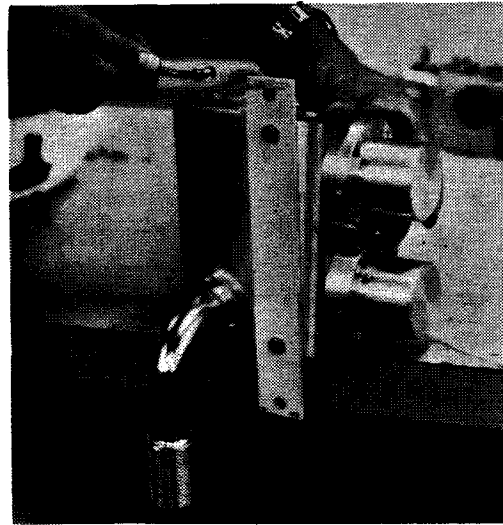
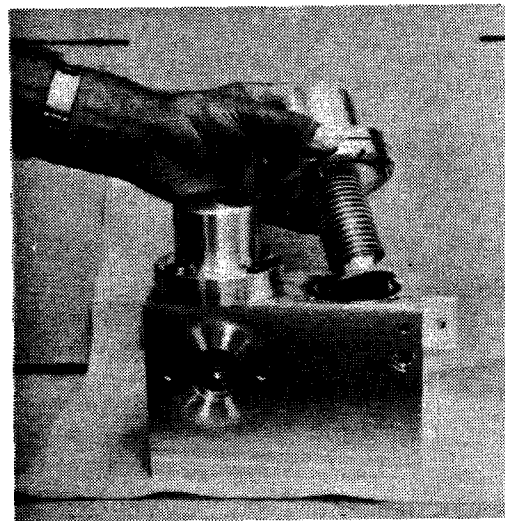

Figure 6-18. *Removing Cover Plate from Inverted Valve Block*
Figure 6-19. *Removing Actuators from Valve Block*
1. Remove screws holding vent valve (4) and calibrating leak (17), then remove the gross leak valve (33), vent valve (with its O-ring retainer), calibrating leak and thermocouple gauge (11) from the valve block by pulling straight out. Set them aside.
2. With the valve block inverted, remove the cover plate (28) from the bottom (Figure 6-18). Clean it, wipe the O-ring and set them aside.
3. Remove test port manifold (24).
5. Lift out the actuator (Figure 6-19). Wash the bellows and sealing disc with methanol and dry thoroughly. If the bellows is to be replaced, see paragraph 6-7.5.